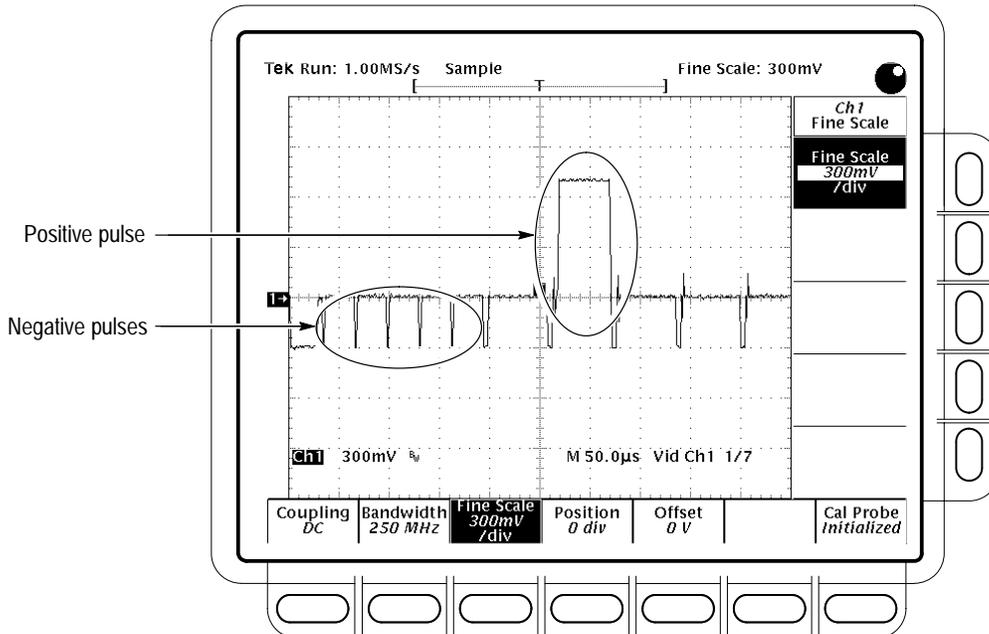

Figure 4–29: Triggered Signal Range Test – 300 mV
- m. CONFIRM that the **TRIG'D** LED stays lighted and that the waveform on screen is stable. That is, it does not move horizontally or vertically. Also, CONFIRM that the waveform on the screen has one positive pulse and a number of negative pulses. See Figure 4–29.
- o. CONFIRM that the **TRIG'D** LED stays lighted and that the waveform on screen is stable. That is, it does not move horizontally or vertically. Also, CONFIRM that the waveform on the screen has one positive pulse and a number of negative pulses. See Figure 4–30.